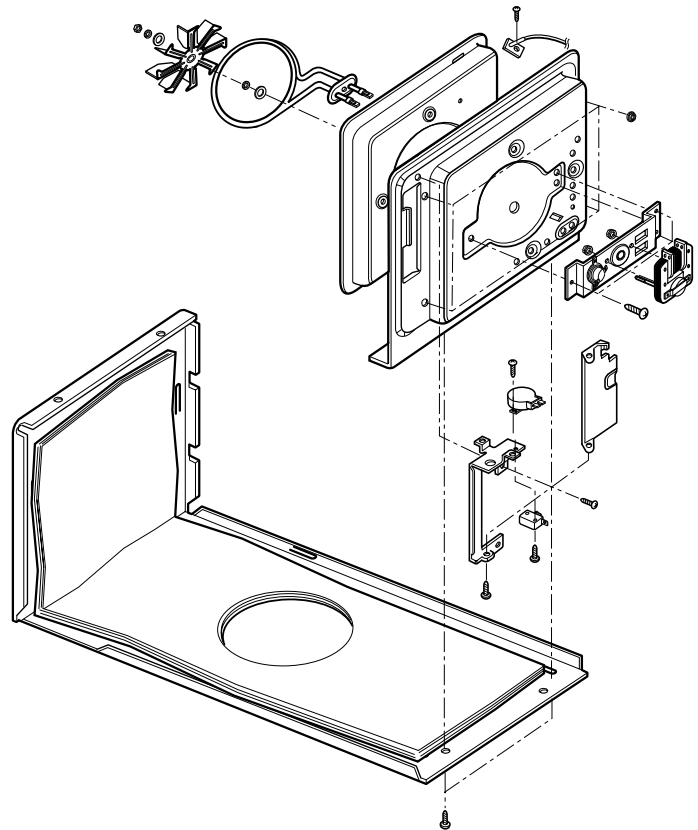

Figure 23
M. REMOVING CONVECTION HEATER, THERMISTOR AND DAMPER MOTOR (Figure 23)
- (1) Remove the outer case.
- (2) Remove the air duct by removing six screws securing it to the oven front plate, guide air and glasswool-L cover.
- (3) Disconnect the wire leads of air duct.
- (4) Remove the magnetron.
- (5) Remove the latch board assembly.
- (6) Remove the bottom plate by removing four screws.
- (7) Remove the four net screws securing chamber assembly.
- (8) Lift the chamber assembly from the oven cavity.
- (9) Remove three screws securing the heater of the chamber assembly.
- (10) Lift the convection heater from the chamber assembly.
- (2) Close the door tightly and check gaps A and B to be sure they are no more than 1/64" (0.5 mm). See Figure 23 for close-up view of gaps A and B (door latches). If all gaps are less than 1/64" (0.5 mm), adjustment of the latch board may not be necessary. Go to Steps 5 and 6 to check the sequence of the switches.